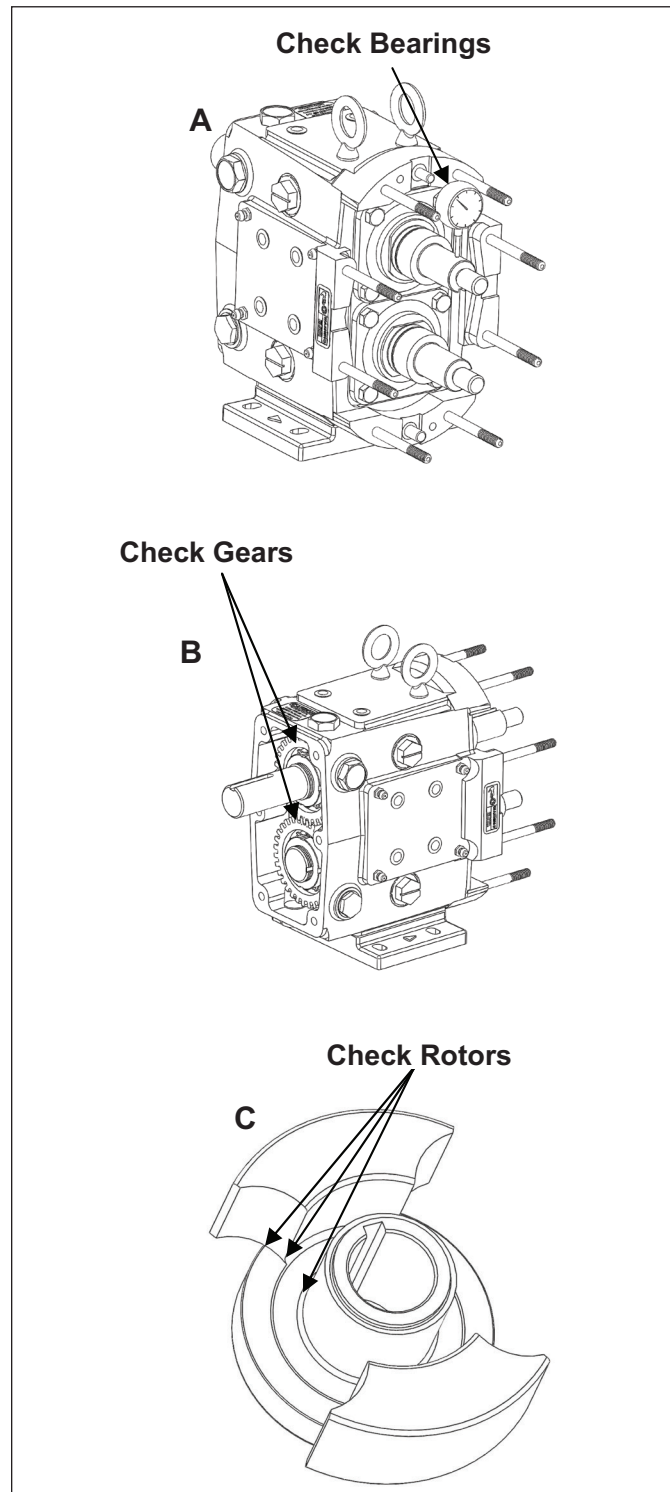

Figure 22. Annual Maintenance Checks
- Check the gear case bearings by measuring the shaft's radial movement with a dial indicator (*Figure 22, A*). If the movement is greater than or equal to the rotor-to-body clearance found on *page 37* (*Table 10*) the bearings should be replaced.
- Remove the gear casing cover (see *page 24* for disassembly information) and inspect the gears for wear and damage (*Figure 22, B*). Also check for backlash and looseness.
- Inspect the rotors for signs of wear and stress cracks around the areas defined in *Figure 22, C*. Replace, if necessary.